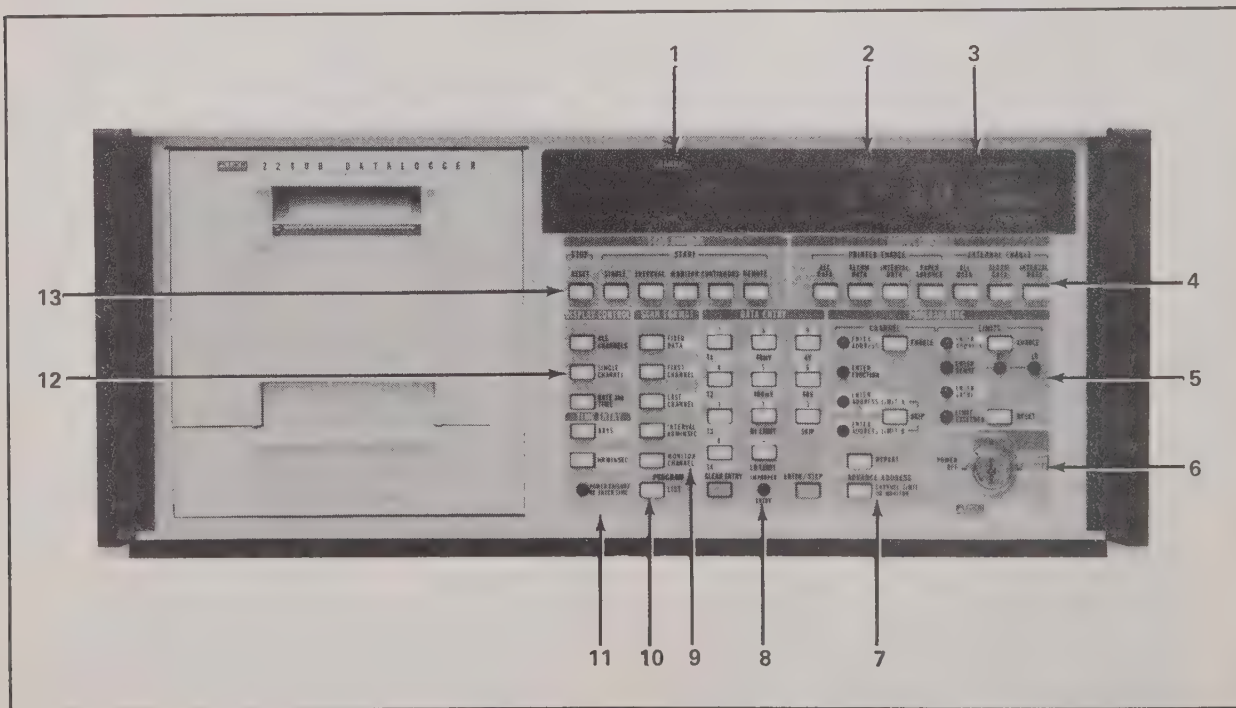

Figure 2-2. 2240B Front Panel Controls and Indicators
- 2-11. The function and location of all 2240B controls and indicators are shown in Figure 2-2 and described in Table 2-1.